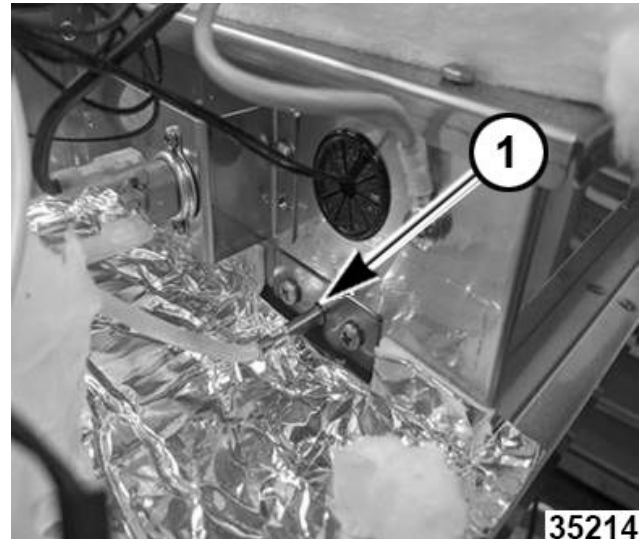

Fig. 20
3. Remove mounting screws and pull probe (1, Fig. 20) out.